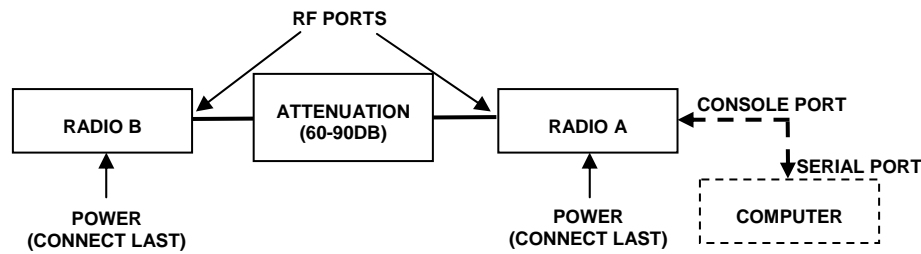

Figure 41 Basic back-to-back bench test configuration
1. Connect attenuation and (known-good) RF cable(s) between radio pair, shown in Figure 41.
Connect the system as shown in Figure 41, using the combination of fixed and variable attenuation between the radio's RF ports. Connect the volt meter to either radio's RSL test point and associated reference ground connection.